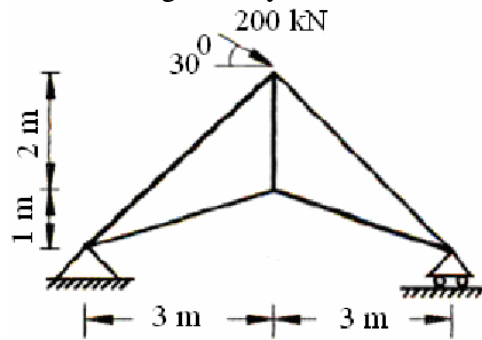

Figure 4
5. Analyze the truss indicated in Figure 4 by method of sections. [15]